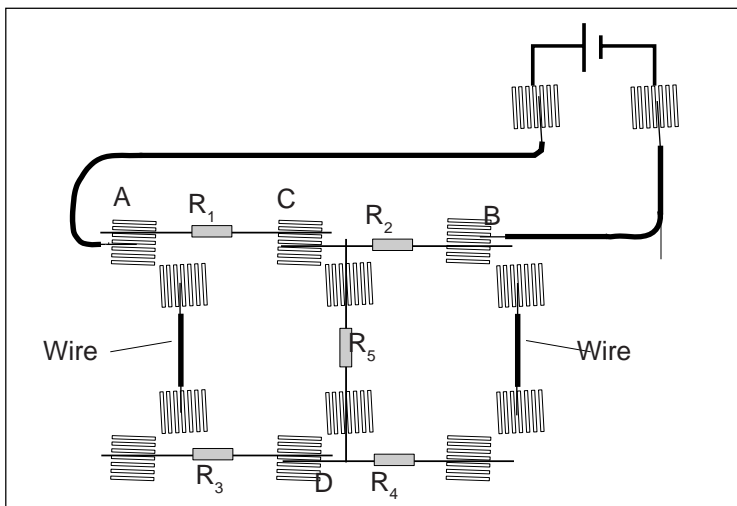
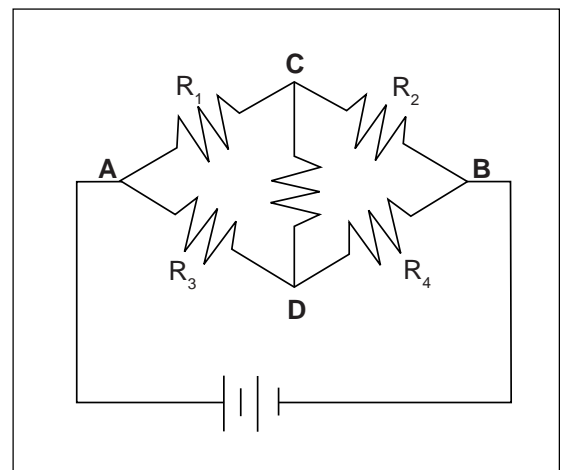

Figure 7.1a
Figure 7.1b
- ① Connect the circuit shown in Figure 7.1a using any of the resistors you have except the  $10\ \Omega$  one. Use Figure 7.1b as a reference along with 7.1a as you record your data. Record the resistance values in the table below. With no current flowing (the battery disconnected), measure the total resistance of the circuit between points **A** and **B**.
- ② With the circuit connected to the battery and the current flowing, measure the voltage across each of the resistors and record the values in the table below. On the circuit diagram in Figure 7.1b, indicate which side of each of the resistors is positive relative to the other end by placing a "+" at that end.
- ③ Now measure the current through each of the resistors. Interrupt the circuit and place the DMM in series to obtain your reading. Make sure you record each of the individual currents, as well as the current flow into or out of the main part of the circuit,  $I_T$ .